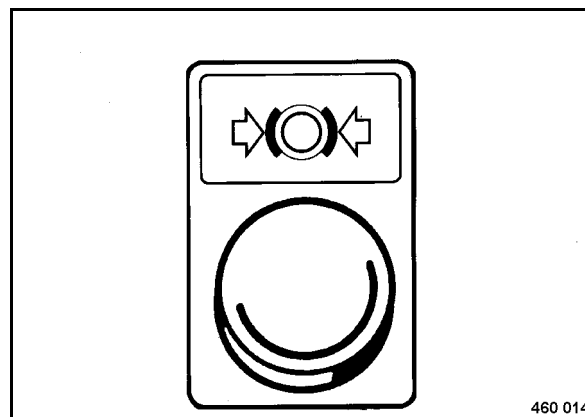

Fig. 54
*The parking brake warning light (Fig. 54) lights up.*